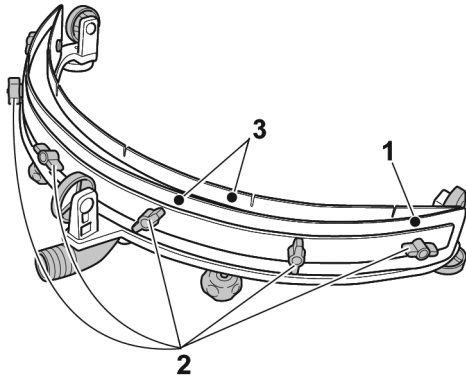

Fig 22
7.1 Replacing the squeegee rubber blades (Fig 22).